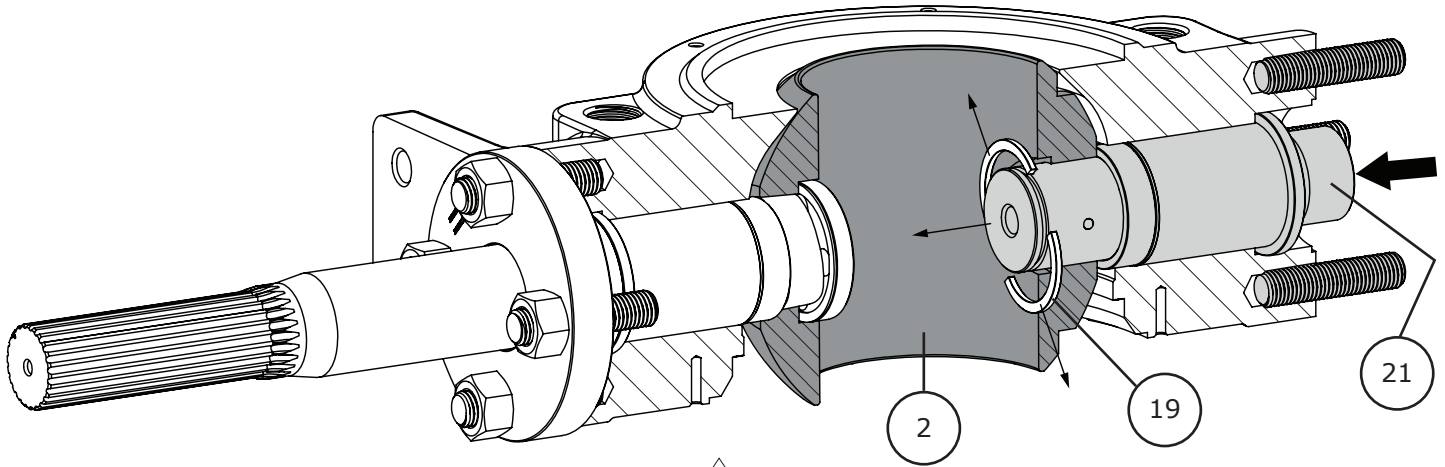

Figure 16 Outboard (Follower) Shaft Disassembly (Steps 2 - 3)
- 2 Using a rubber mallet or soft block, carefully drive the follower shaft (Key 21) towards the inboard end of the valve until the split ring (Key 19) can be easily accessed. Refer to Figure 16.